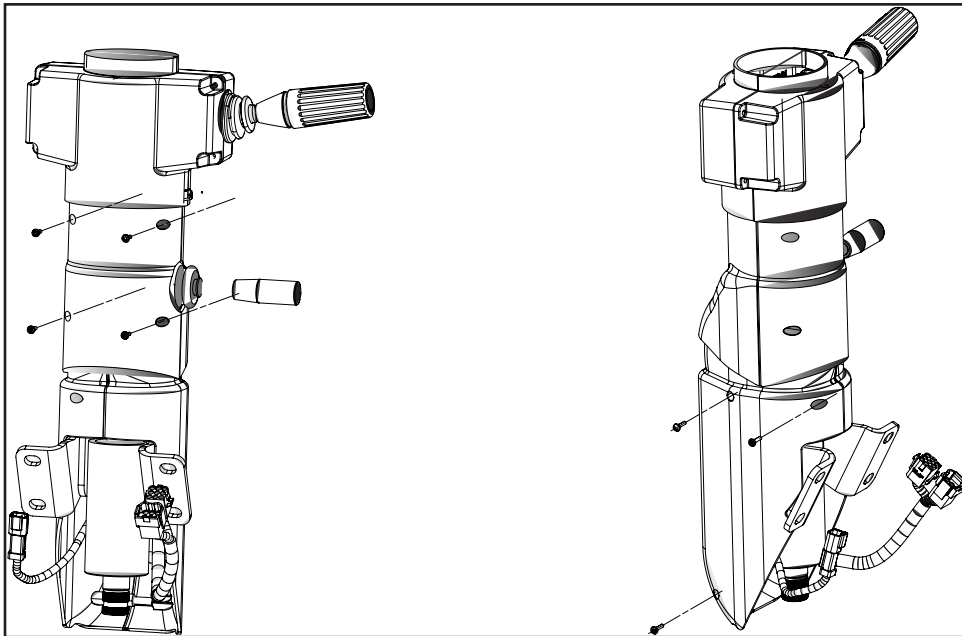

Figure 2
6. Remove the (7) screws securing the upper and lower covers to the steering column and set aside for reinstallation. Remove the upper and lower covers and set all components aside for reinstallation (see *Figure 2*).